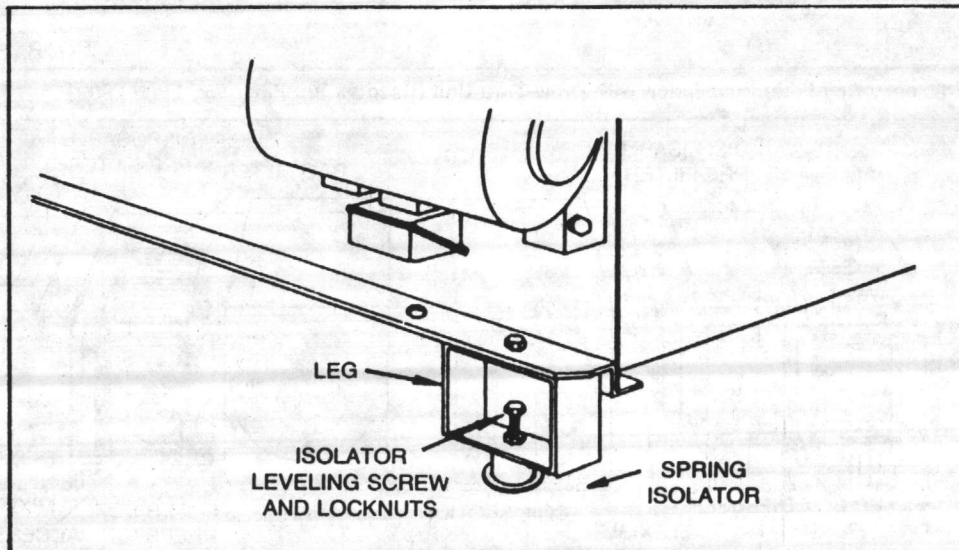

FIGURE 18 - Attaching the Mounting Leg and Spring Isolator to the High Pressure Sprayed Coil Unit
1. Attach the mounting legs (Spray Coil Units only) and spring isolators to the fan section, as illustrated in Figure 18.